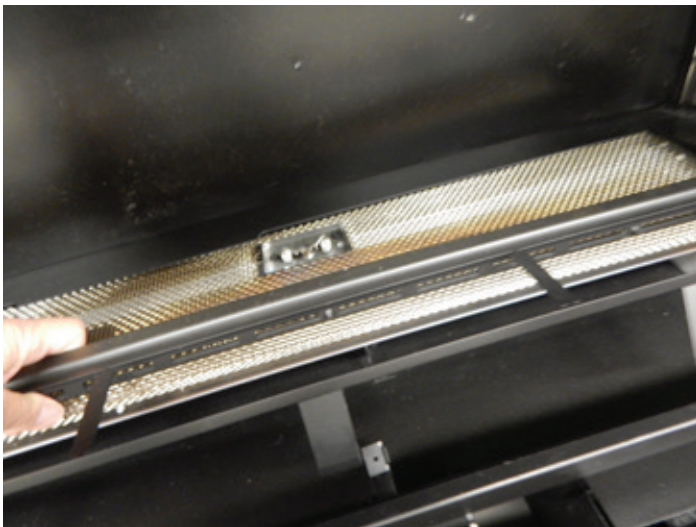

Figure 5
8. Remove the Burner Cover assembly. Grasp the cover as shown in Figure 5 and pull upward to release, then set aside. Note: the Burner Screen does not need to be removed to complete installation.